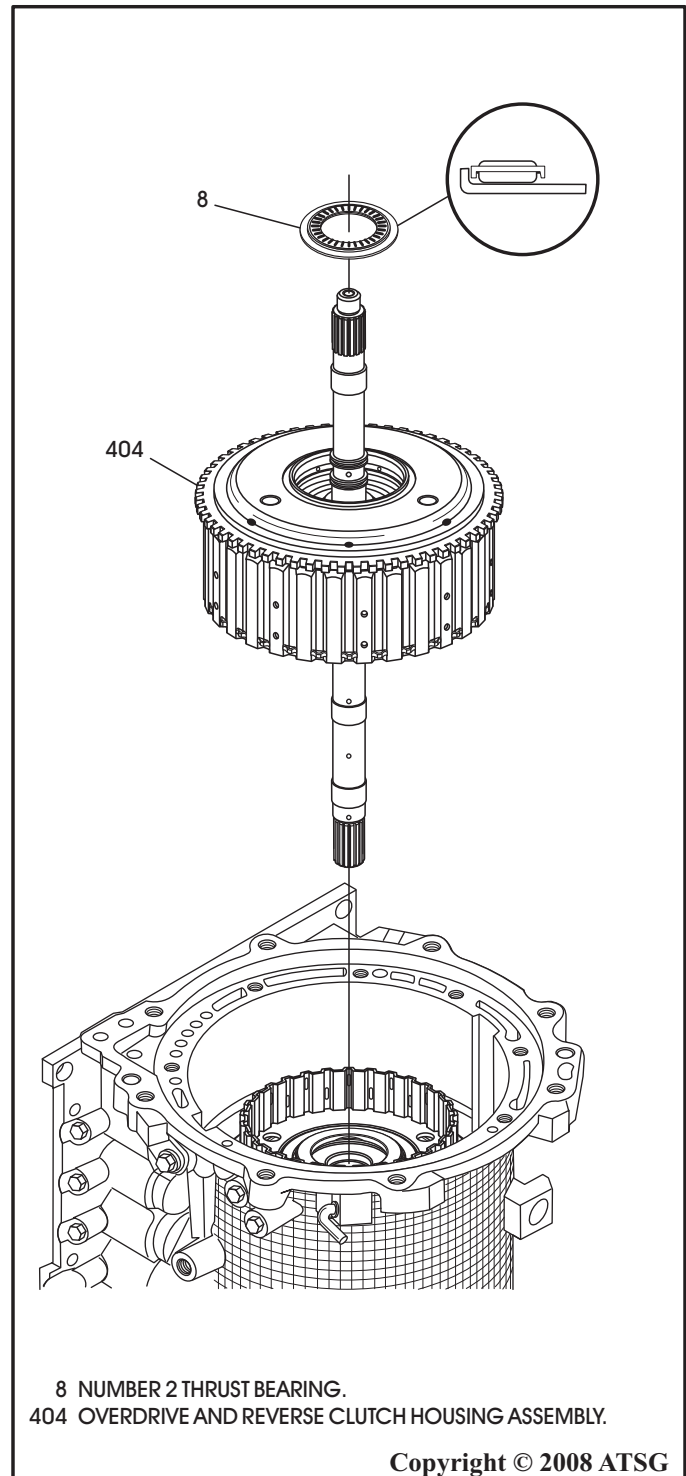

Figure 205
53. Install the completed overdrive and reverse clutch housing assembly, as shown in Figure 205, by rotating back and forth to engage the reverse frictions and the overdrive frictions.
54. Install the number 2 thrust bearing, as shown in Figure 205, with needles facing up.